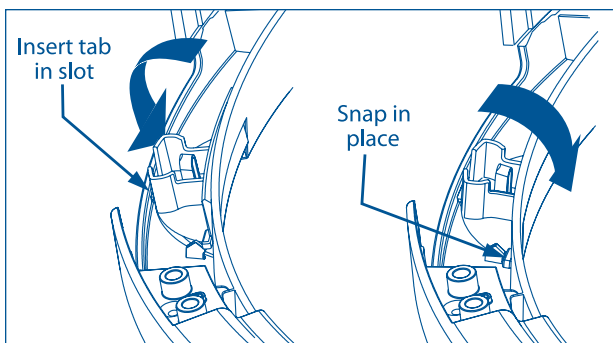

Figure 2-42.
2. Grasp the hole plug between finger and thumb and insert the tab into the retaining slot. (See Figure 2-42)